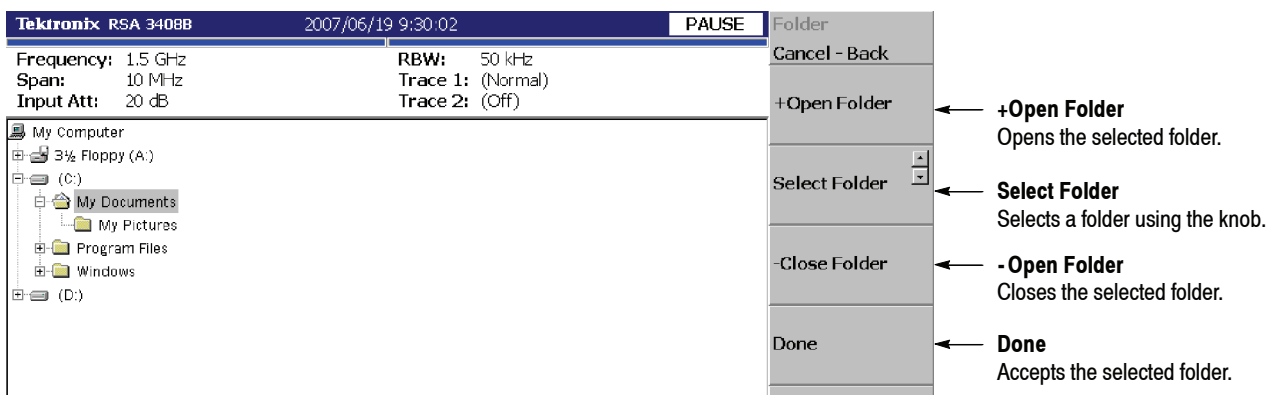

Figure 3-179: Selecting the folder
- a. Press the **Folder...** side key to select the destination folder using the following menu items (see Figure 3-179):